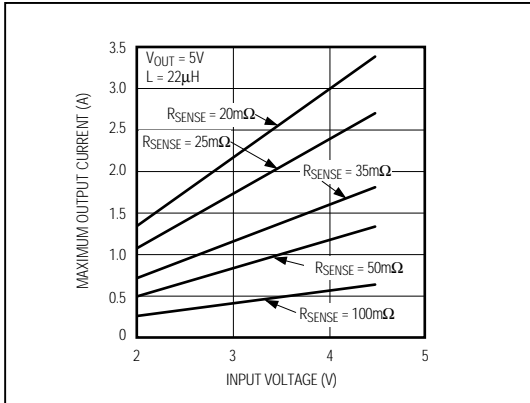

Figure 4a. Maximum Output Current vs. Input Voltage (VOUT = 5V)
Use the theoretical output current curves shown in Figures 4a–4d to select RSENSE. They were derived using the minimum (worst-case) current-limit comparator threshold value over the extended temperature range (-40°C to +85°C). No tolerance was included for RSENSE. The voltage drop across the diode was assumed to be 0.5V, and the drop across the power switch rDS(ON) and coil resistance was assumed to be 0.3V.